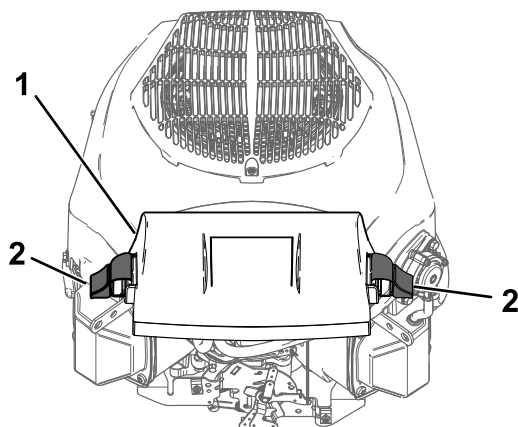

Figure 31
3. Install the cover and secure it with the retaining clamps (Figure 31).